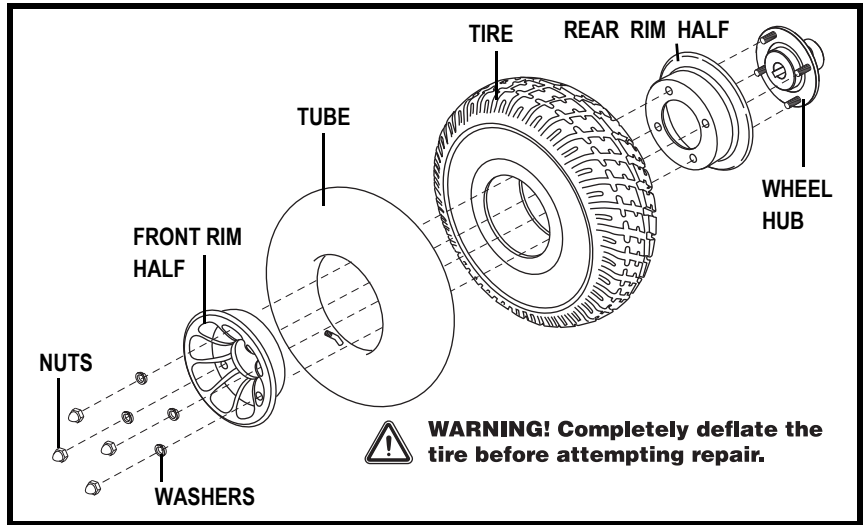

Figure 26. Pneumatic Drive Wheel Disassembled
8. Remove the nuts and washers from the wheel hub and separate the rim halves. See figure 26.